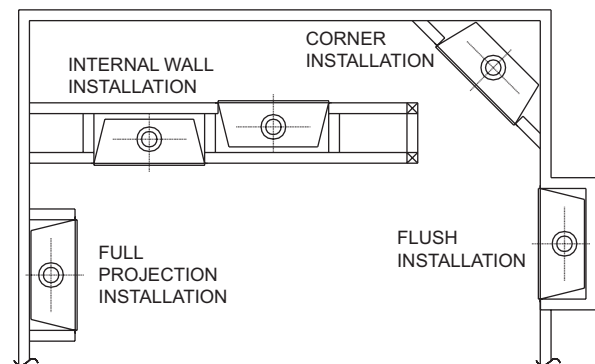

Figure 1 - Possible Locations for Installing Appliance
3. A location that avoids the cutting of joists or roof rafters will make installation easier. Figure 1 shows a plan view of a few common locations.